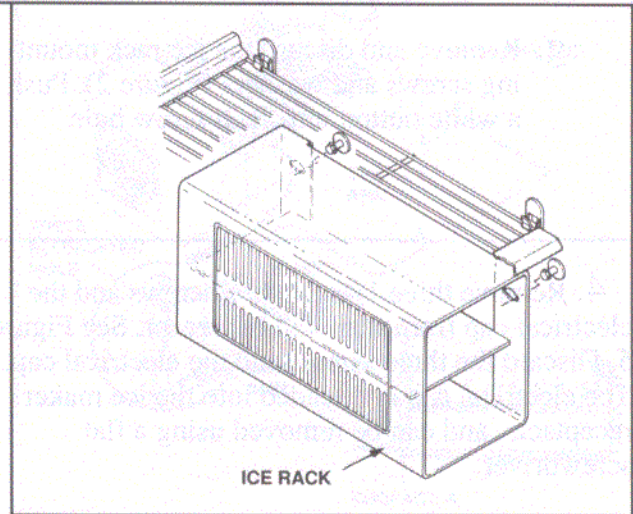

Figure 2
- b. Slide the ice rack forward slightly to free it from the two holding screws (see Figure 2). Note that some effort may be required to do this.
- g. Remove and discard the ice rack mounting screws and washers (Figure 2). Push a white button into each screw hole.